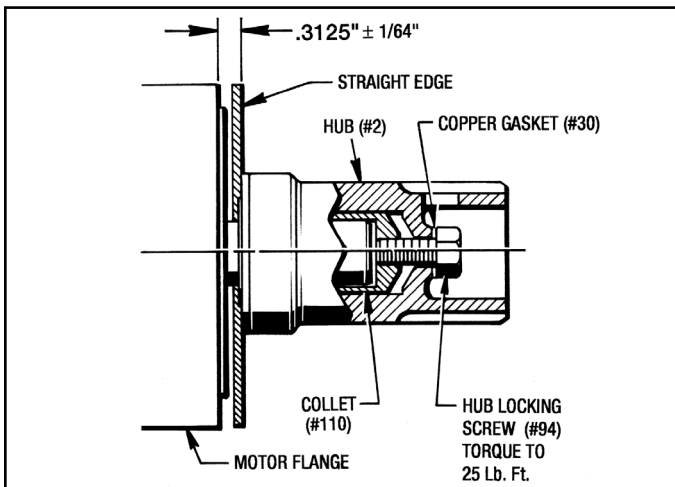

Figure 3 - Hub Alignment
1. Holding a straight edge across the face of the Hub, measure from the straight edge to the motor mounting face. It should measure 5/16" Adjust if necessary. (See Figure 3)